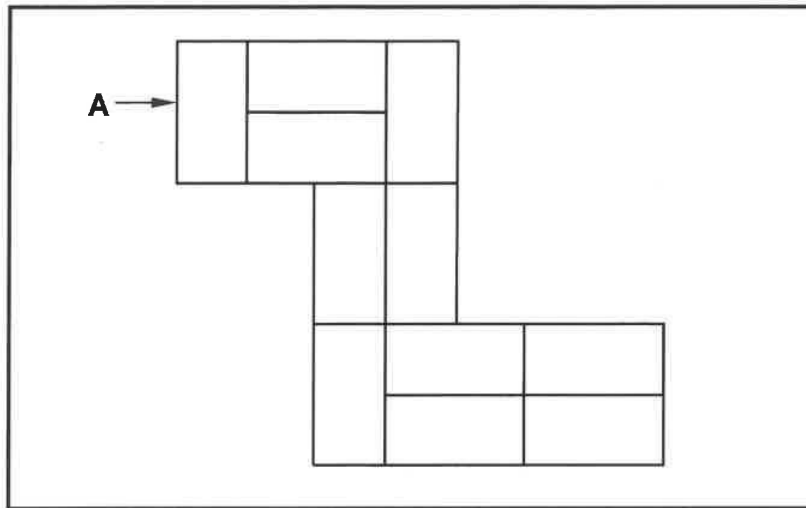

FIGURE 3.4
- 3.4 FIGURE 3.4 below shows the first course of a double return angle of a one-brick wall in stretcher bond.